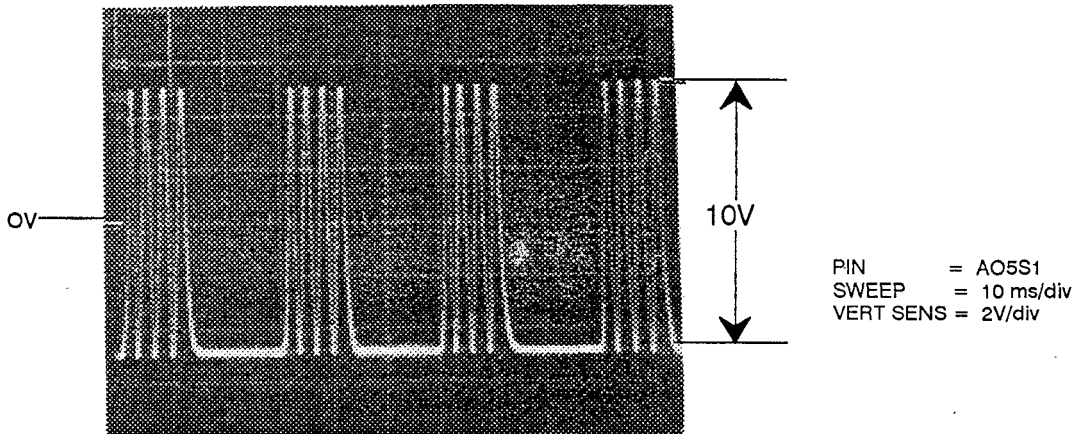

FIGURE 4.3
4.2.7 Cosine Amplitude (CA) and Offset (CO) Figure 4.3.
2. Observe A05S1 (COS POSITION) for a scope display similar to that shown in Figure 4.3. The waveform amplitude must be $10\text{ Vdc} \pm 1$ volt peak to peak and symmetrical about ground.